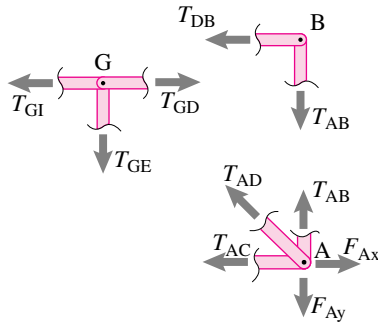

Figure 6.8: Free-body diagram of some joints from the truss in fig. 6.7. Note that bars DB, AB and GE are zero-force members.
- Joint B has only two bars connected (see fig. 6.8). Force balance using FBD 6.8 tells us at a glance that
then the two new bar tensions are both zero (e.g., joint B in fig. 6.8).